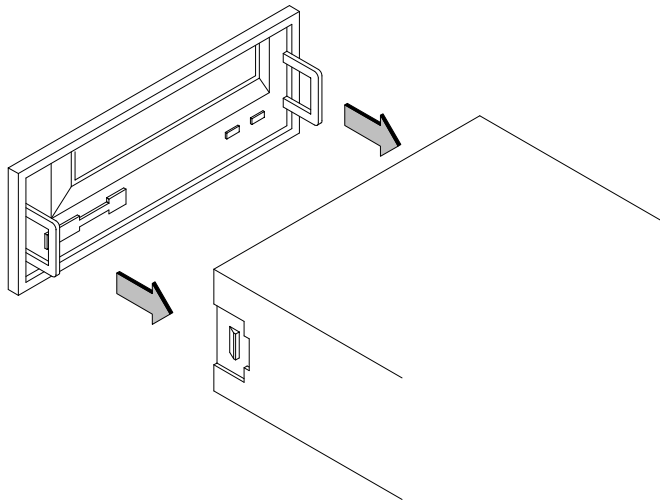

Figure 1–5. Adding a Bezel to the DDS-2 Drive
- To add a bezel (it can be a 3.5-in bezel, or a 5.25-in bezel) to your drive, push onto the drive, making sure the tabs click into place. Refer to Figure 1–5.
- To remove a bezel from a drive, use a straight blade screwdriver to lift the bezel tabs from the sides of the drive. Refer to Figure 1–6.
- To add or remove expansion brackets to the drive, use a T10 torx wrench to either tighten or remove the four torx screws that hold each expansion bracket to the drive. Refer to Figure 1–7.